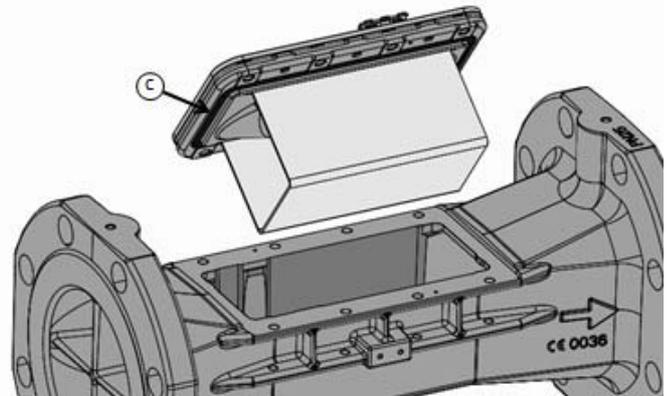

Fig. 7: Gasket "c" of the measurement insert
- Check the fit of the gasket "c" (see figure 7) on the interim cover. The gasket must be properly positioned in the groove and be free of any damage.